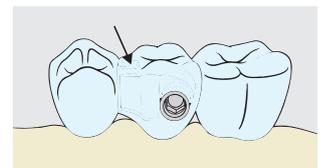

Fig. 8
**Aesthetics:** With sufficient occlusal space the Mini-SG® V can be veneered above the guiding grooves. To prevent the alloy running into the female part, keep all wax out of the housing while waxing up the occlusal surface (Fig. 8).